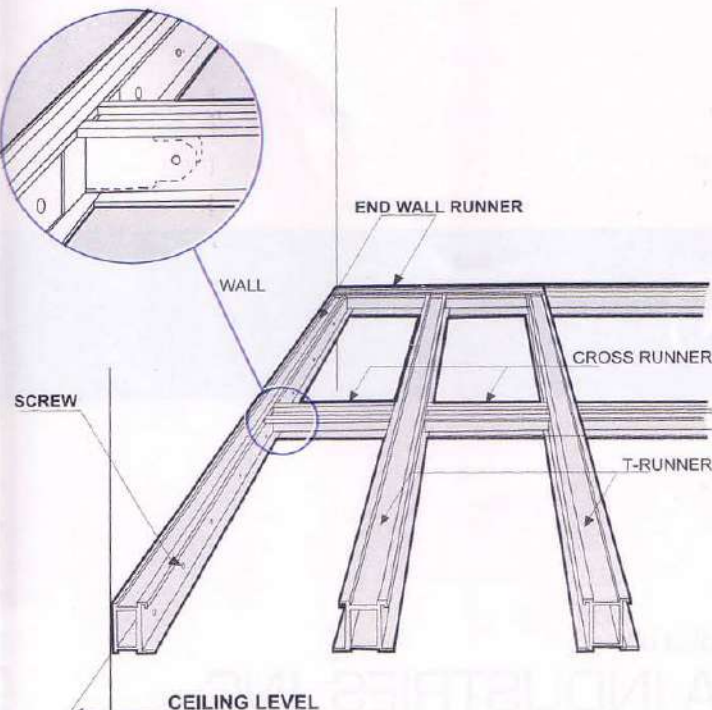

FIG. 2
2. CROSS RUNNER LAYOUT (Fig. 2)
- 4.2 Adjust and fix the position of t-connectors at previously marked t/cross runner distance. (See fig. 2, 5 and 6)